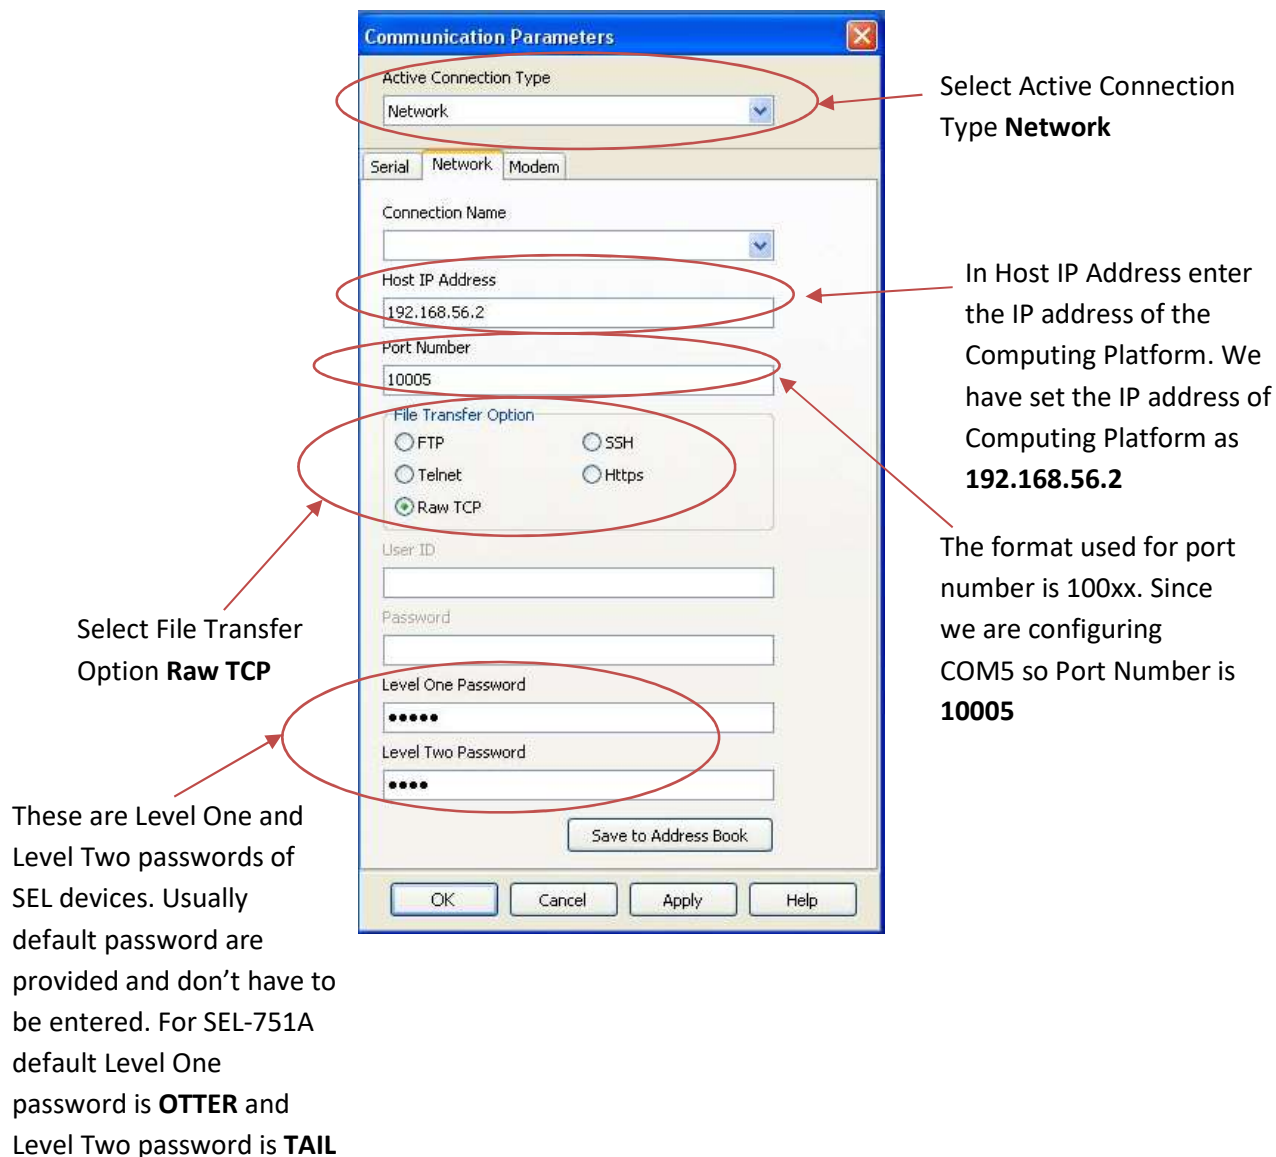

Figure 4.25 Setting communication parameters in QuickSet
- 3) Use the following setting in the Communication Parameters to configure COM5 port on Computing Platform as shown in Figure 4.25.